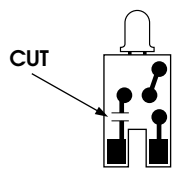
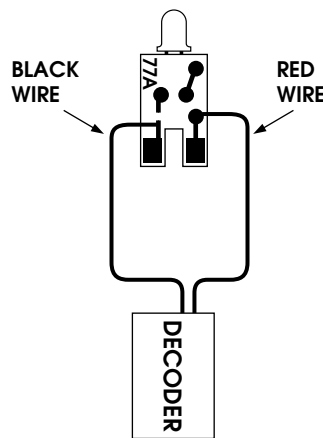
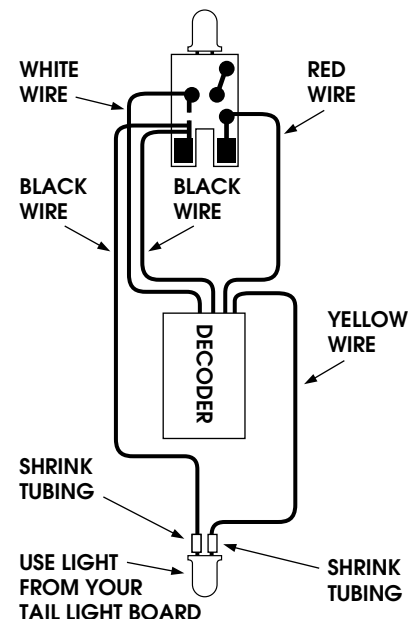

Fig. 2
Fig. 3
Fig. 4
- Lay the light board out in front of you, parts side down as in Fig. 2. With a sharp hobby knife make a cut in the circuit trace as shown (Fig. 2). Attach the BLACK and RED wires as shown (Fig. 3). Solder WHITE wire to front light board the YELLOW wire to rear light as shown in Fig.4.